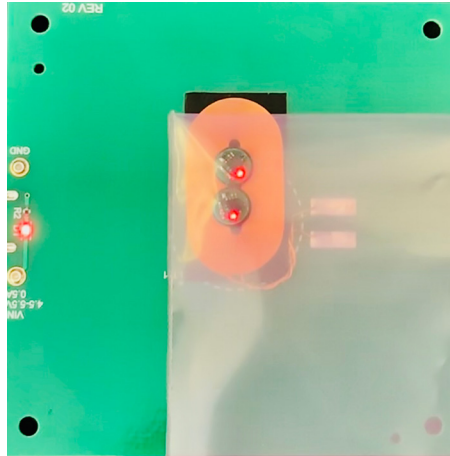

Figure 8. DC 2774A on top of DC2771A-A in Operation
7. Turn off PS1 and PS2 simultaneously. Remove DC2775A-A from DC2771A-A. Place two DC2774A boards on top DC2771A-A coil (Figure 8).